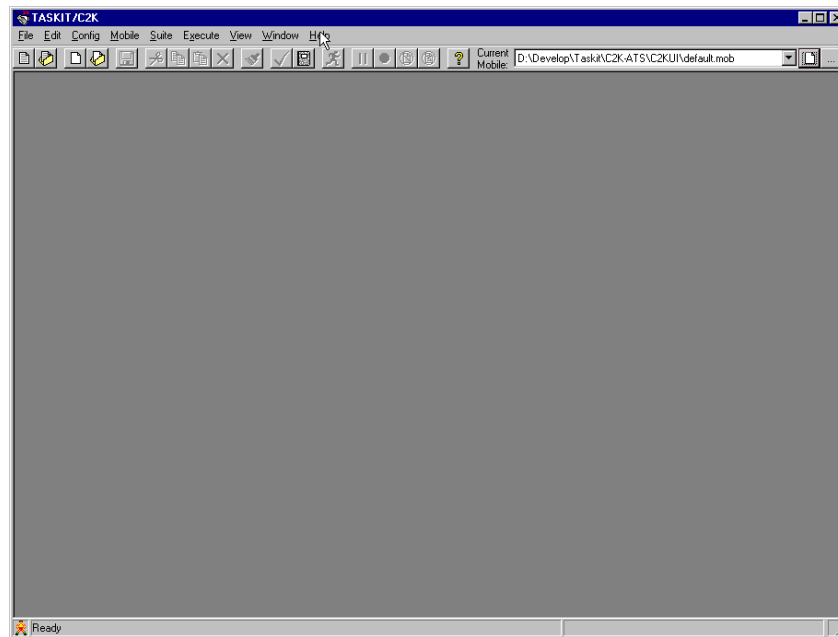

Figure 2-7: TASKIT/C2K Window
3. Start TASKIT/C2K by clicking the **C2K icon**  shown in the TASKIT group. The *TASKIT/C2K* window displays, as shown in Figure 2-7.